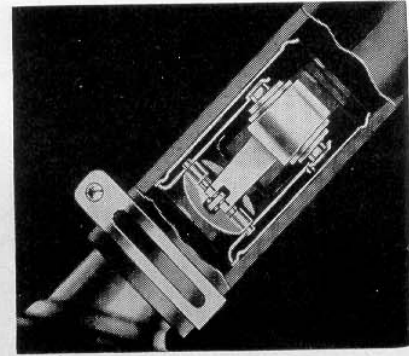

Fig. FO41—Cooling system thermostat on models 2N-8N-9N.
49. A thermostat is located in the upper radiator hose. Thermostat starts to open at approximately 160 degrees and is fully open at approximately 195 degrees Fahrenheit. See Fig. FO41.